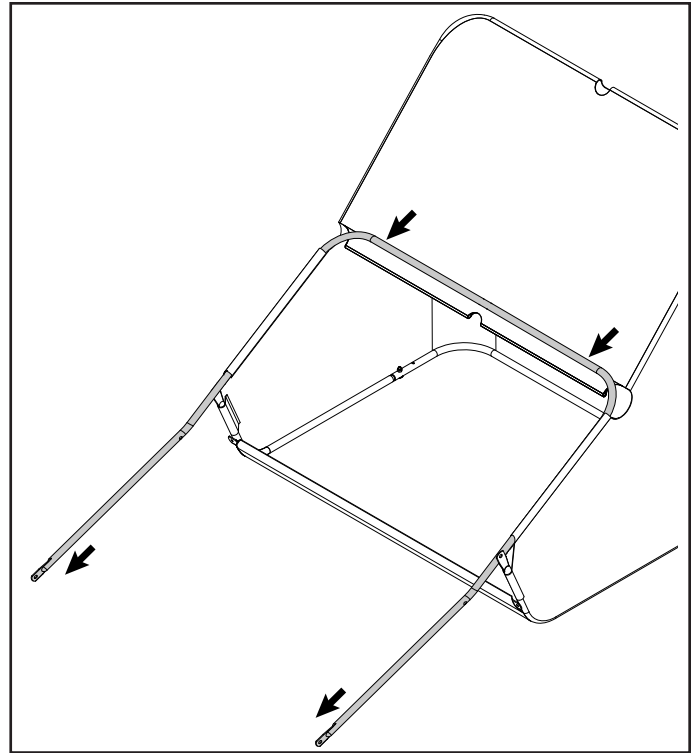

FIGURE 11
STEP 11: (SEE FIGURE 11)
- Slide the assembled tubes down through the flaps in the sides of the hopper bag (3) as shown.